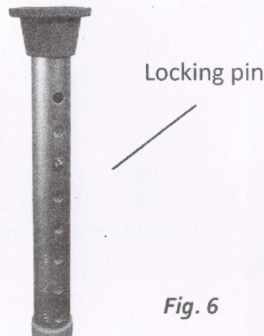

Fig. 6
2. Select required height by adjusting the leg in an upwards or downwards motion and release the metal locking pin in front of the required hole position (Fig. 6).
3. Prior to use always ensure that each locking pin fully protrudes from the selected hole position (Fig. 6).